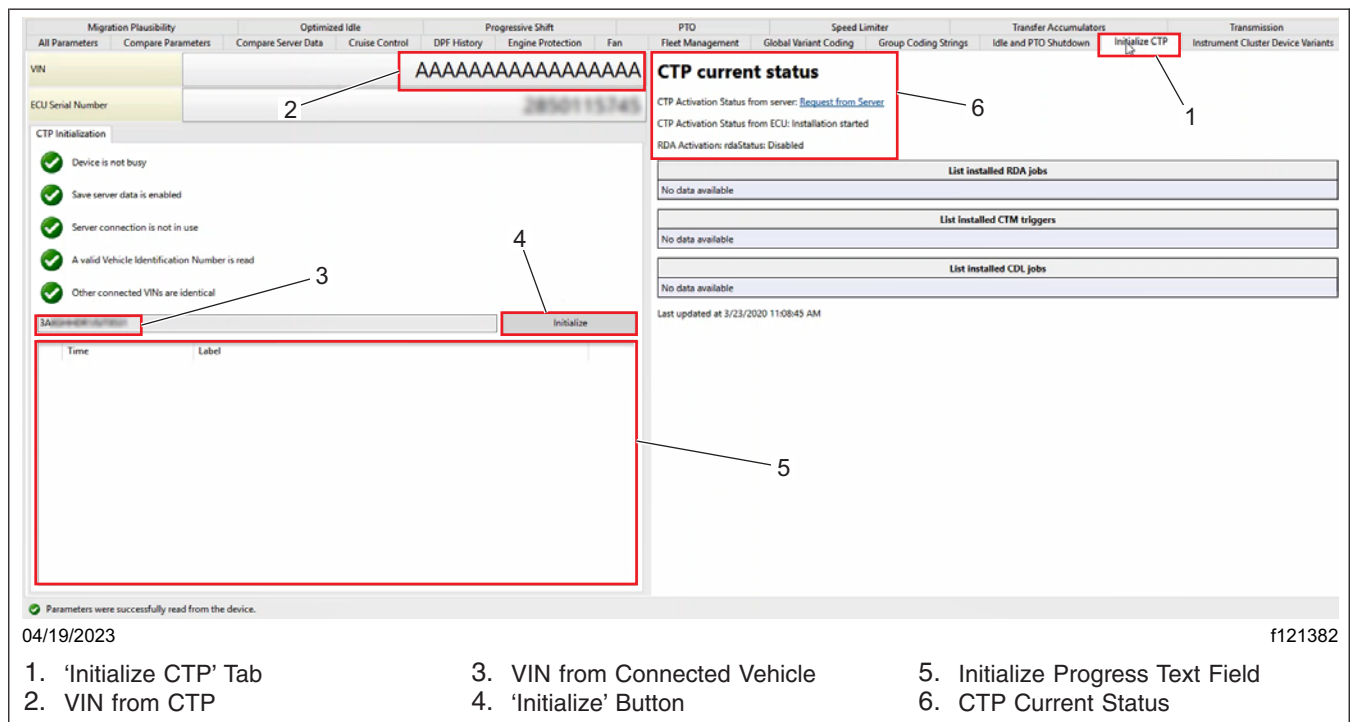

Fig. 6, CTP Initialization
24. Select the 'Initialize CTP' tab. Verify the vehicle identification number (VIN) from the new CTP2 displays default 'AAAAAAAAAAAAAAAA', or the VIN from the connected vehicle. See **Fig. 6**.